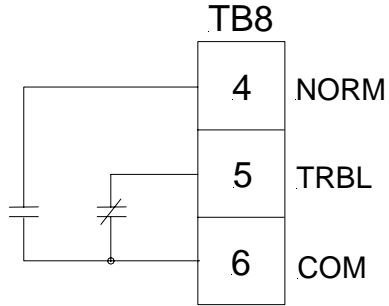

Figure 3-14
- For a detail of the system Trouble Status output contact Terminal connections (shown in the trouble position), see Figure 3-14 on Page 3-14.